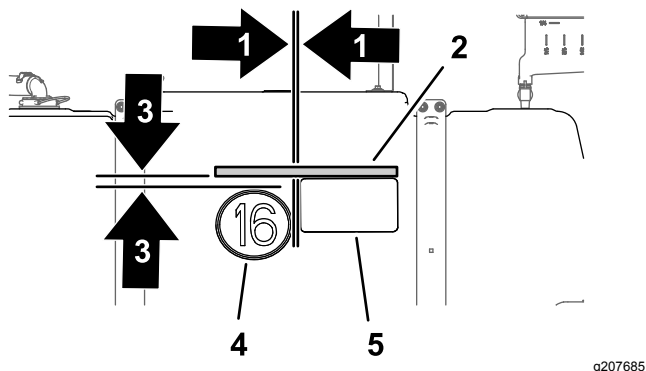

Figure 48
5. At the right side of the tank, align a piece of masking tape 48 cm (19 inches) across the top of the Toro Multi Pro 5800 decal and forward as shown in Figure 48.
6. Measure 28 mm (1-1/8 inches) from the bottom edge of the masking tape and mark the tank with a pencil (Figure 48).
7. Measure 21 mm (13/16 inch) from the left edge of the Toro Multi Pro 5800 decal and mark the tank with a pencil (Figure 48).
8. Remove the backing from a speed decal and align the decal to the marks (Figure 48) that you made in steps 6 and 7.
9. Apply to decal to the tank and remove the masking tape (Figure 48).